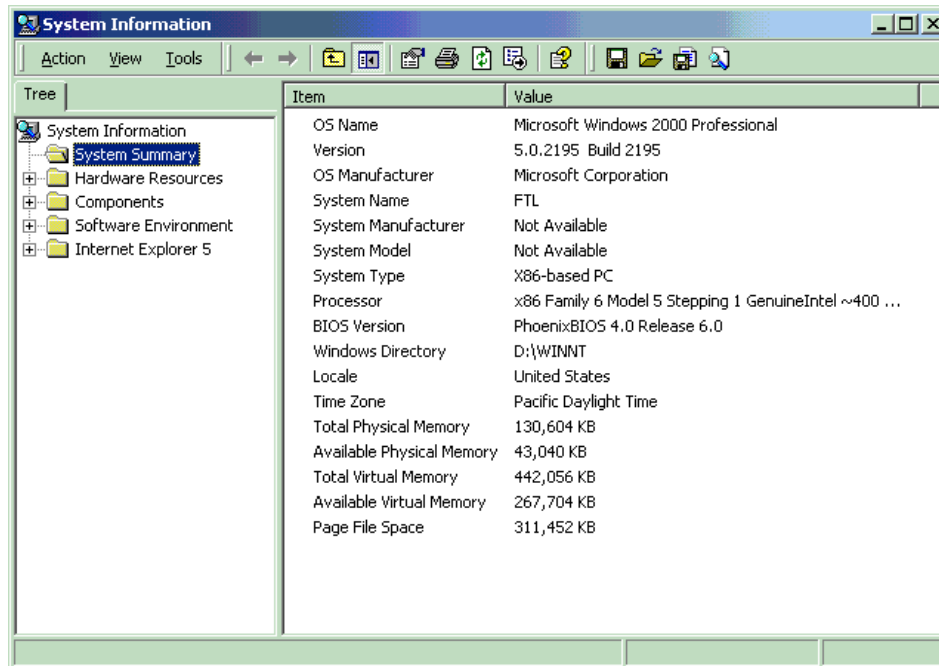

Figure 74. System Information Window
2. Double-click **System Information**. The System Information window opens (Figure 74).